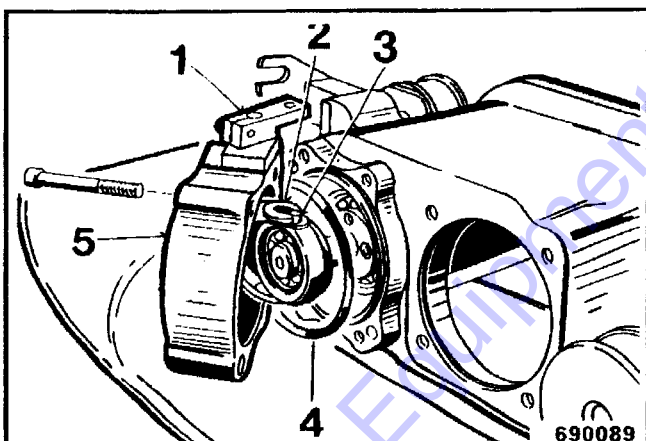

Fig. 10
- Lubricate the seal ring 4 (Fig. 10) and insert it into the groove in the control housing flange.
- Push the control fork (2) onto the tappet (3) of the control ring.
- Place the control housing cover (5) onto the control housing flange and tighten it.
- Check whether the lever (1) can be moved by spring force between both end positions.